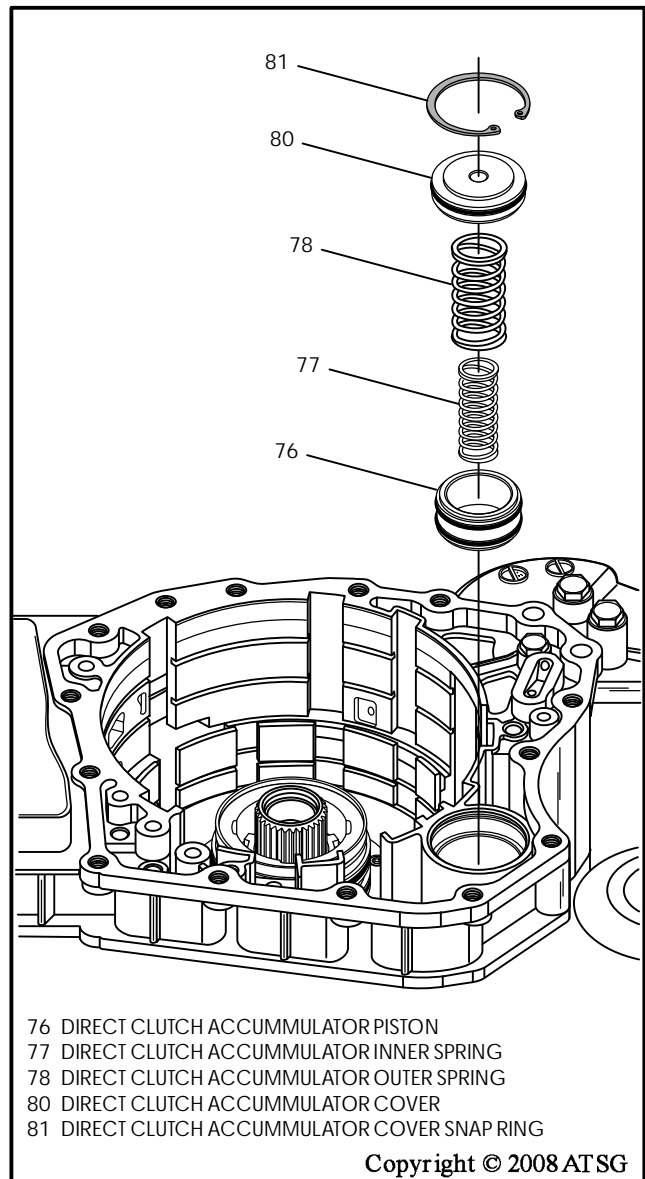

Figure 64
88. Remove direct clutch accumulator snap ring and remove all direct clutch accumulator parts, as shown in Figure 64.